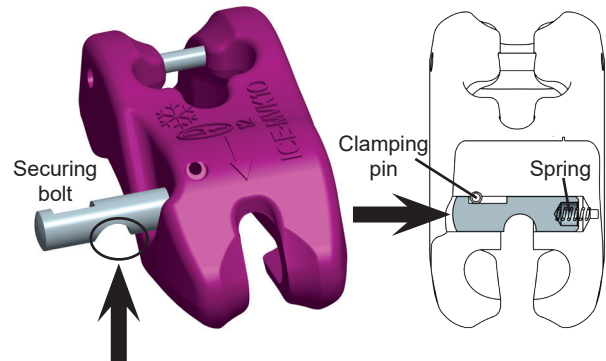

Fig. 30:
6. Push a new securing bolt into the bore (Fig. 30).
- Align the securing bolt in such a way that the rounded recess is pointing downwards (Fig. 30). Only then can the clamping pin to secure the securing bolt be inserted into the appropriate groove using a hammer.